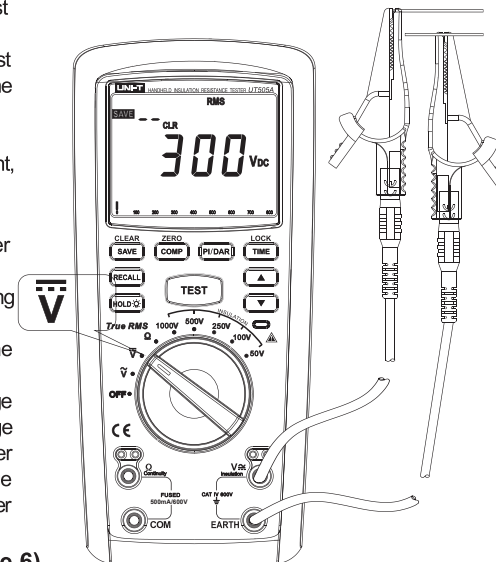

Figure 5
2. DC voltage measurement (See Figure 5)
- ① Insert red test pen in “ $\sim V$ ” jack (red hole) and black test pen in “EARTH” jack (black hole).
- ② Push the rotating switch to the gear “ $\bar{V}$ ” and connect test pen in parallel with the power source or to both ends of the load to be measured.
- ③ Directly read the measured voltage value from display.
- ④ To save the measured voltage value during measurement, just push the button “SAVE”.